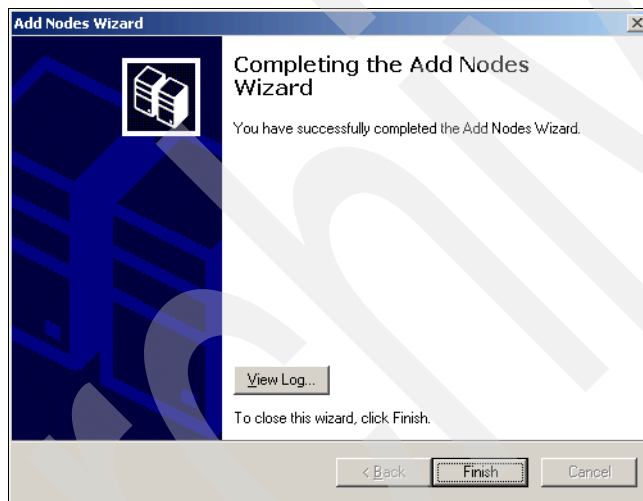

Figure 23-59 Add nodes wizard complete
11. Click **Finish** to close the Add Nodes Wizard (Figure 23-59).